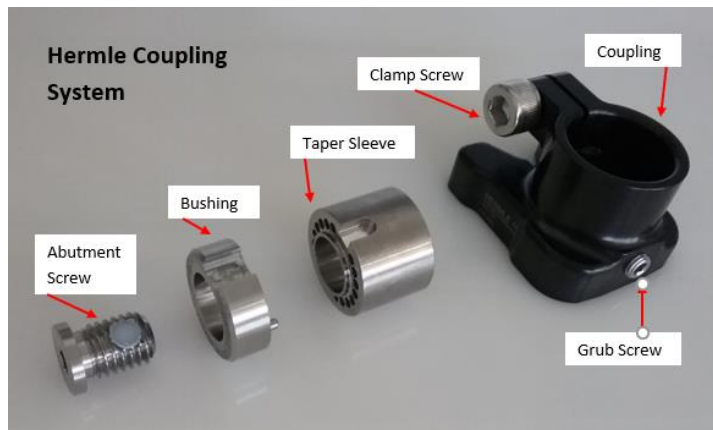

Figure 1: Hermle Coupling System
**INTENDED USE:** The Hermle couplings (Fig.1) are intended for use only as the connection to modular exoskeletal prosthetic components.